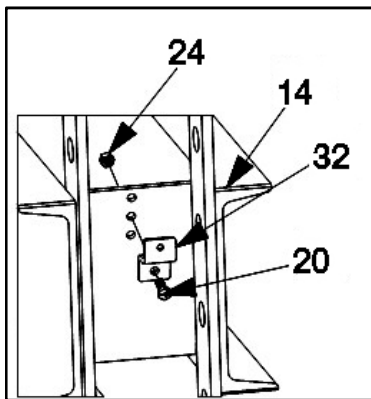

Fig. 14: Install cable attachment bracket
17. Install a Cable Attachment Bracket [item #32] on each side of the Lower Bolster [item #14], as shown in Fig. 14, using (1) 3/8" X 1" Grade 5 Cap screw [item #20] and (1) 3/8" Nut [item #24] per Cable Attachment Bracket.